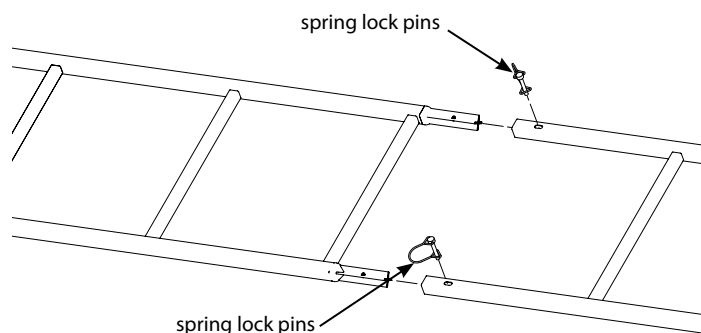
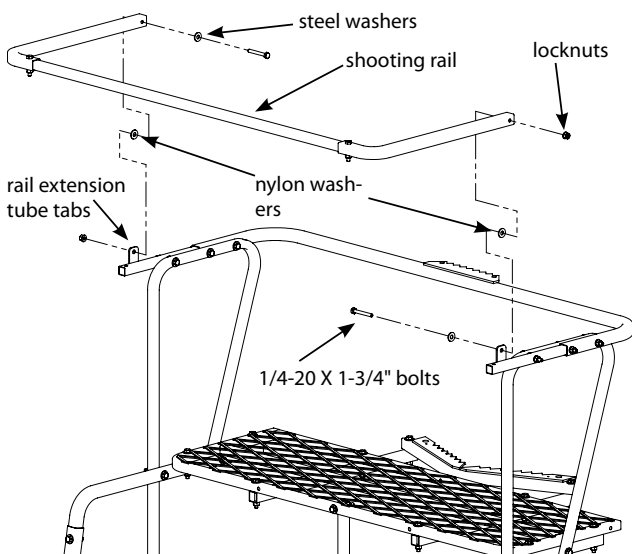

Figure 8
Figure 7
10. Attach the previously assembled shooting rail to the tabs located on the shooting rail extension tubes using (2) provided 1/4-20 x 1-3/4" bolts, locknuts, steel washers and nylon washers. **SEE FIGURE 7. You must now tighten all nut and bolt combinations completely. Be sure not to over tighten or crush tubing when tightening.**
b. Attach the (2) provided 9" and (1) provided 36" camo foam sleeves to the side loop frames and shooting rail by wrapping around square tubing and attaching Velcro together.
13. With all sections assembled together on ground, secure all sections together using (8) provided spring lock pins. Handle of spring lock pin must be put to the outside of ladder side rails. **SEE FIGURE 8.**